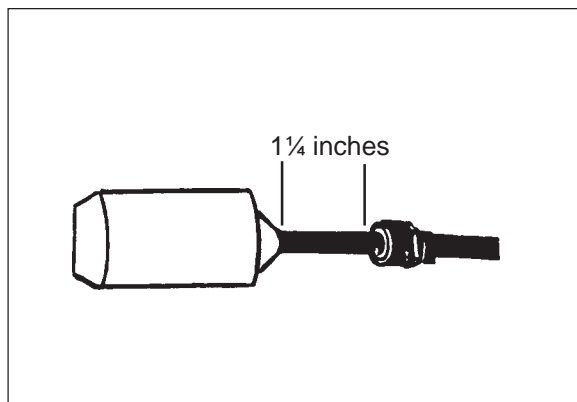

Figure 5
1. Install and tighten strain relief onto float cord. See fig. 5.